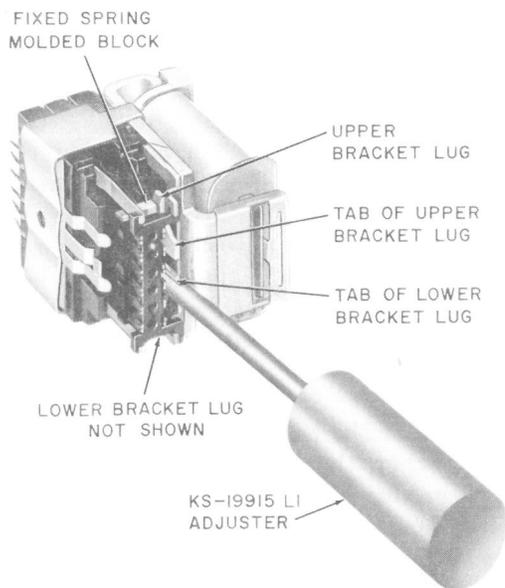
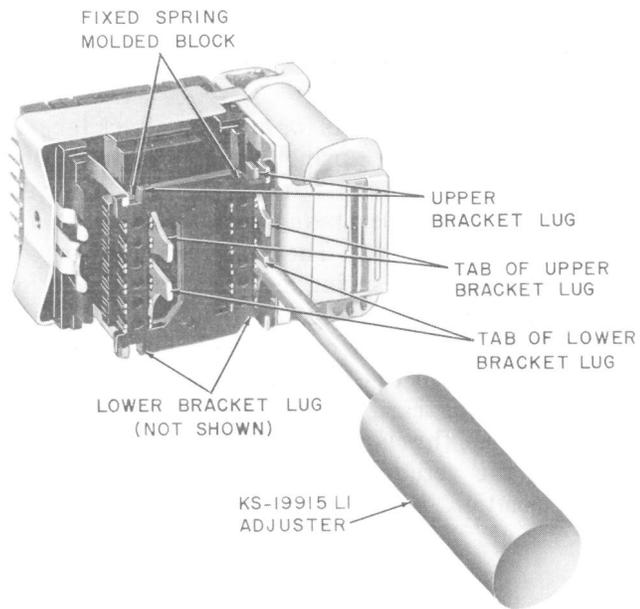

Fig. 12—Method of Adjusting Contact Separation (6-Position Relay Shown)
Fig. 13—Showing Tabs for Adjusting Legs on 12-Position Relay
(1) Adjustments to meet the make, break, and sequence contact requirements are made by adjusting the position of the associated fixed spring molded block. The block is repositioned by adjusting the bracket lugs which press against the upper and lower portions of the block (see Fig. 12). In the case of 12-position relays (see Fig. 13), two fixed spring molded blocks are used. For these relays, the contact requirements are met by repositioning each molded block as required. When a fixed spring molded block is repositioned, the fixed spring contacts are moved toward or away from the movable spring contacts, depending on the adjustment of the bracket lugs. The distance that each fixed contact is moved will vary in an inverse ratio to its distance from the adjusted lug. Thus, adjustment of the lower lug will cause the greater movement of the fixed contact at position 1 or 7 and negligible movement of the contact at position 6 or 12. This relation should be considered in adjusting the contacts, and the adjustment to obtain the required result should be made with as little bending of the lugs as practicable.
(2) **Make Contacts:** To adjust the make contacts, place the KS-19915, L1, adjuster on the tab of the bracket lug to be adjusted taking care to avoid touching the contact springs (see Fig. 12). To increase the separation between the movable make and fixed contacts, rotate the adjuster slightly counterclockwise on the lower tab and clockwise on the upper. To decrease the separation, rotate the adjuster slightly clockwise on the lower tab and counterclockwise on the upper. When the contacts that require adjustment are located near the center of the relay, the best adjustment is usually obtained by adjusting both the upper and lower lugs of the bracket. After completing the adjustment, recheck the contact make and break and contact sequence requirements.
(3) **Break Contacts:** To adjust the break contacts, place the KS-19915, L1, adjuster on the tab of the bracket lug to be adjusted, taking care to avoid touching the contact springs (see Fig. 12). To increase the separation between the movable break and fixed contacts, rotate the adjuster slightly clockwise on the tab of the lower lug and counterclockwise on the upper. To decrease the separation, rotate the adjuster slightly counterclockwise on the tab of the lower lug and clockwise on the upper. When the contacts that require adjustment are located near